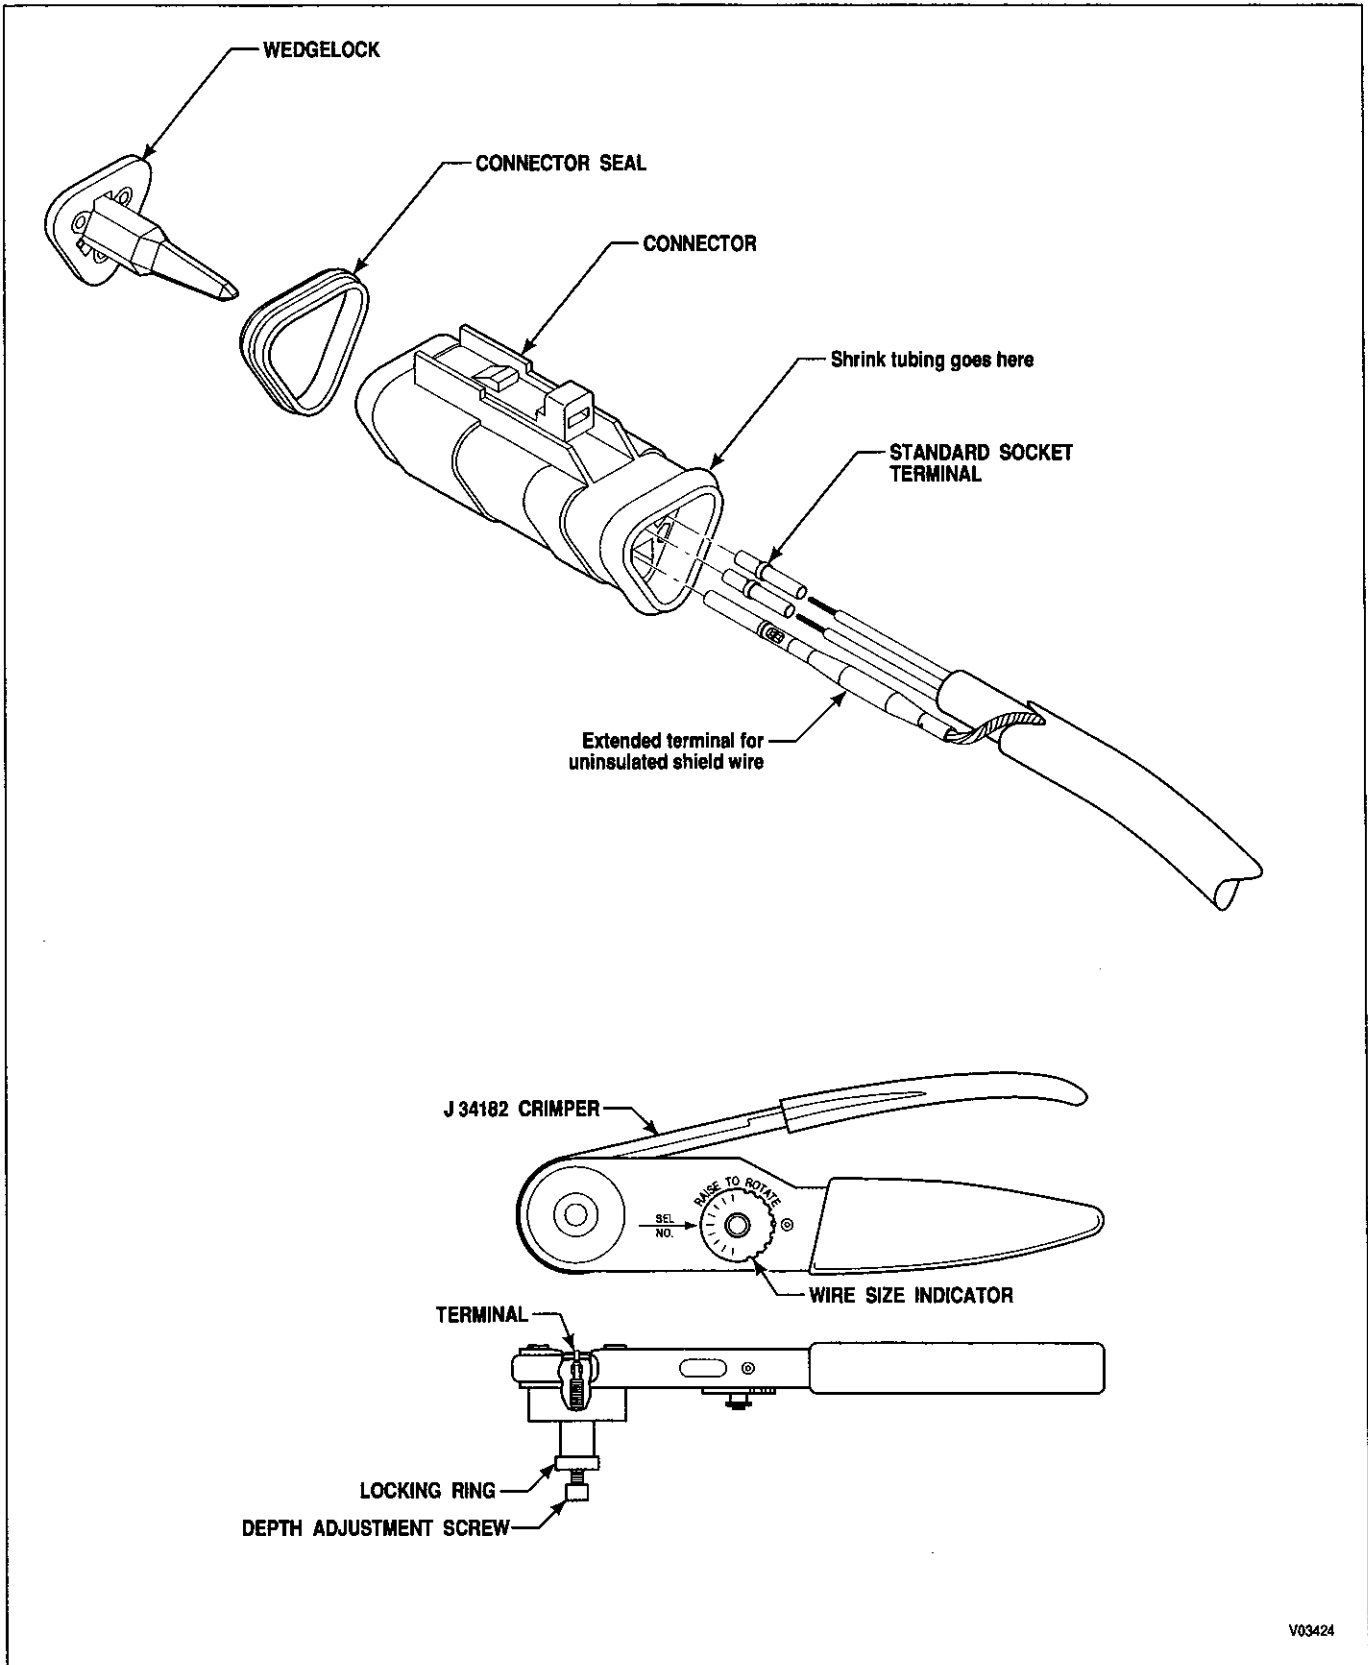

Figure E-13. Deutsch DT Series Connector (3-Way J1939 Interface)
- Crimping Tool for Pre-insulated Crimp J 38125-8 (refer to Figure E-13)